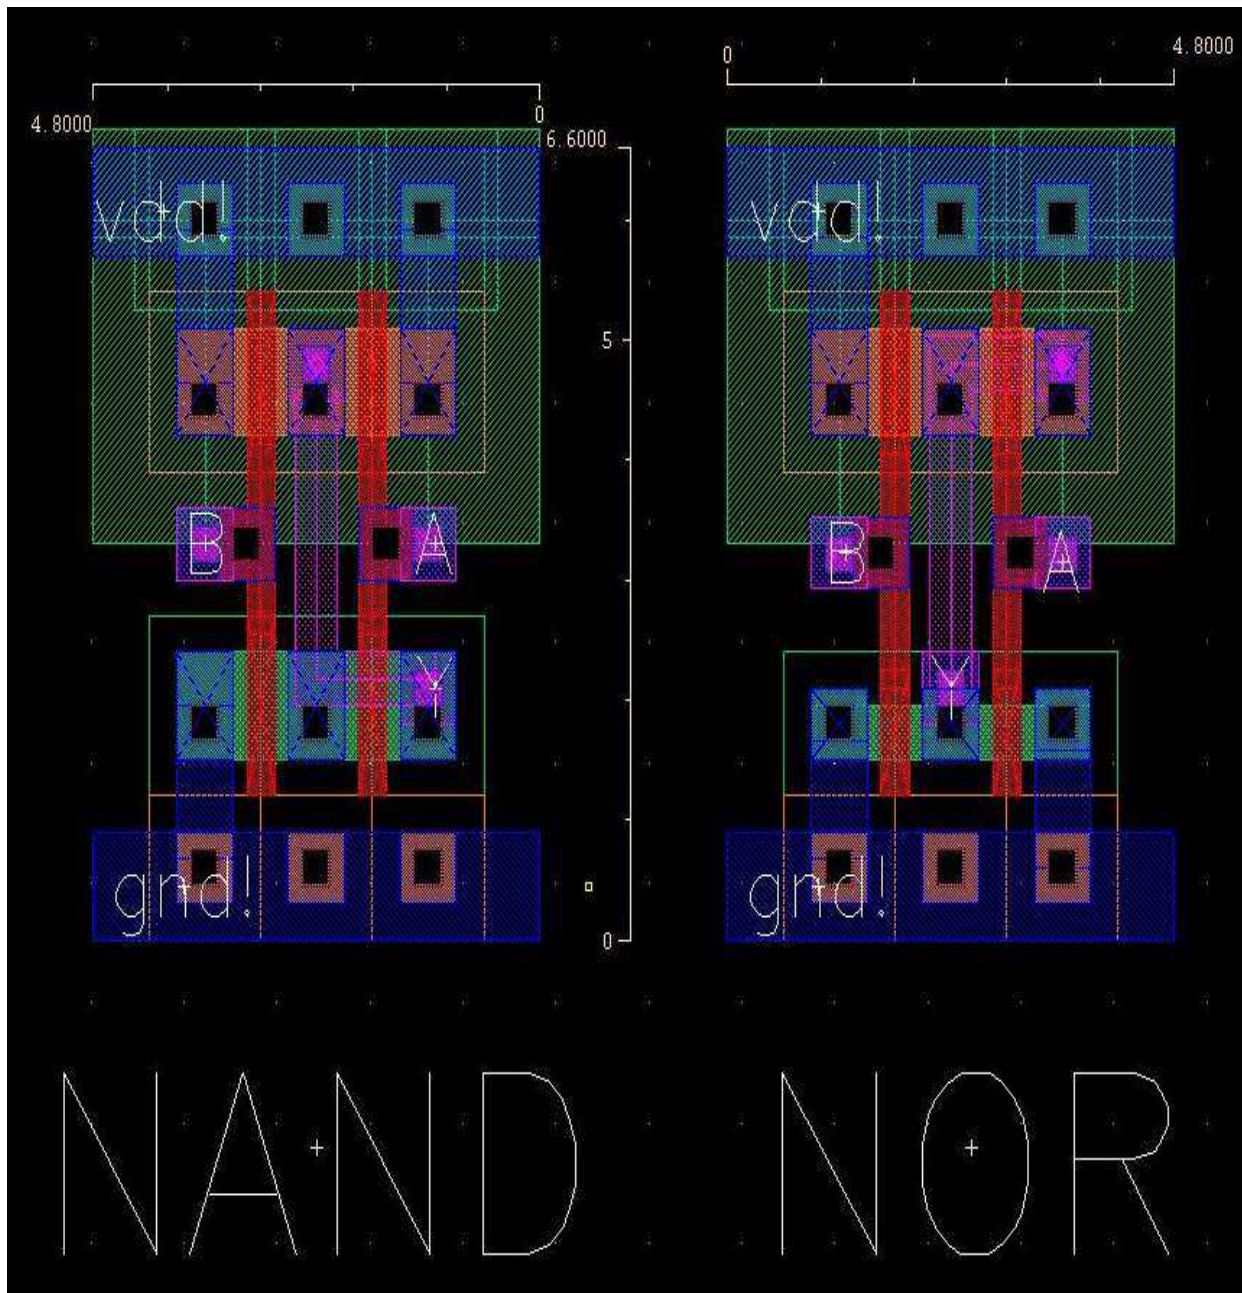

Figure 5: Sample layout of the NAND and NOR cells.
1. After creating the inverter layout, do the same thing for the NAND and NOR cells. An example layout of both gates is shown in Figure5.